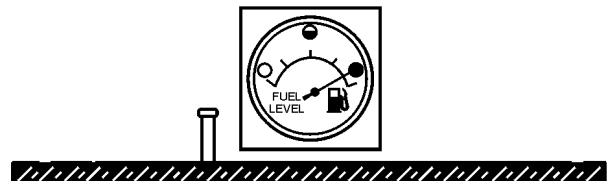

Figure 34. Full Fuel Tank
3. **NEVER** overfill fuel tank – It is important to read the fuel gauge when filling trailer fuel tank. **DO NOT** wait for fuel to rise in filler neck (Figure 34).